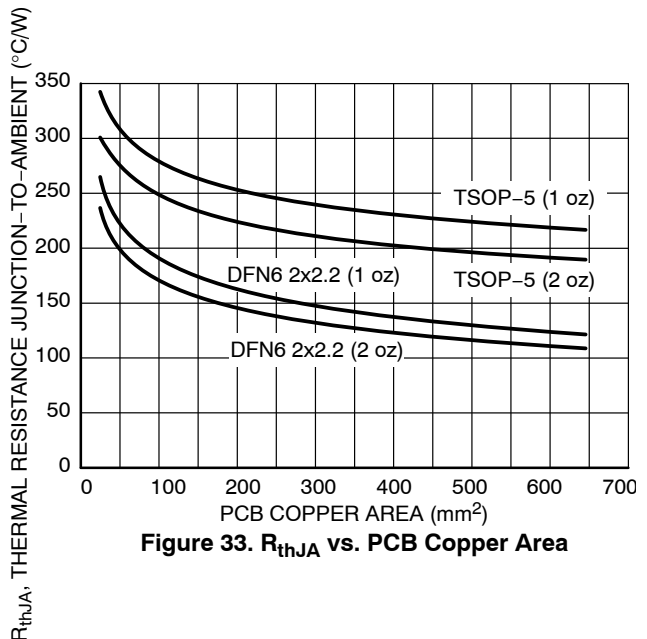

Figure 33. RthJA vs. PCB Copper Area
Since TJ is not recommended to exceed 125°C (TJ(MAX)), then the NCP600 in a DFN6 package can dissipate up to 870 mW when the ambient temperature (TA) is 25°C, and PCB area is 640 mm2 and larger, see Figure 33.